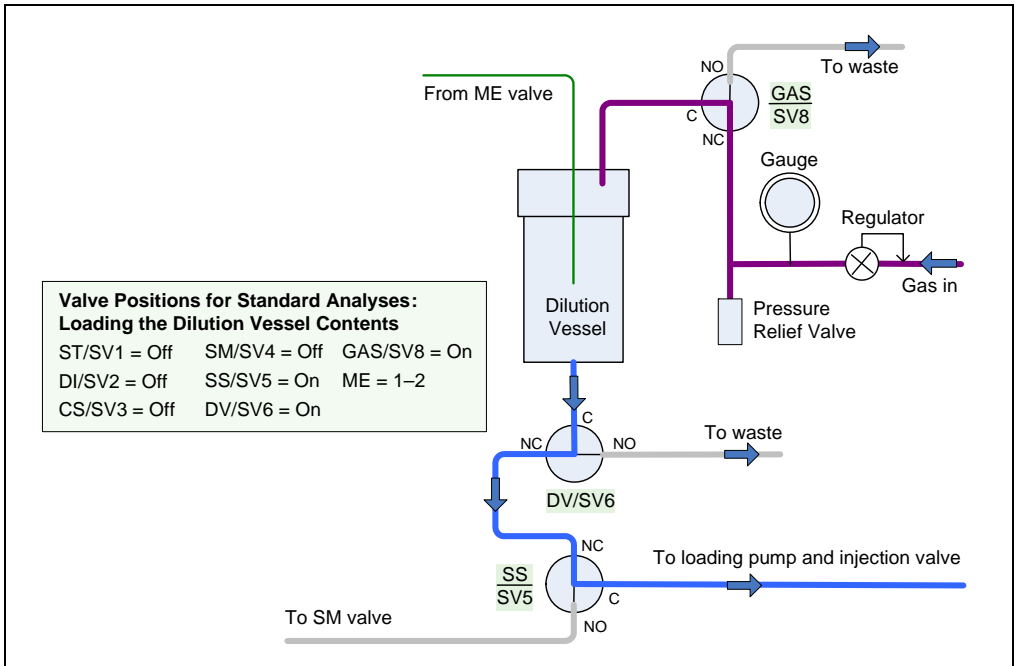

Figure 3-23. Analyzing Calibration Standards
- Purging the diluted standard from the dilution vessel and loading it to the injection valve (see Figure 3-23)
- Step 3: Purging the diluted sample from the dilution vessel and loading it to the injection valve. This step is the same as in analyzing the calibration standard (see Figure 3-23).